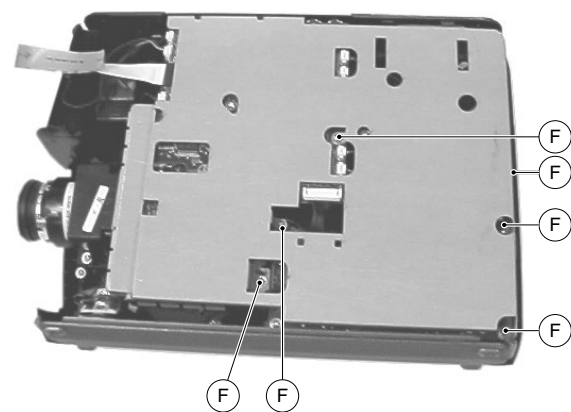
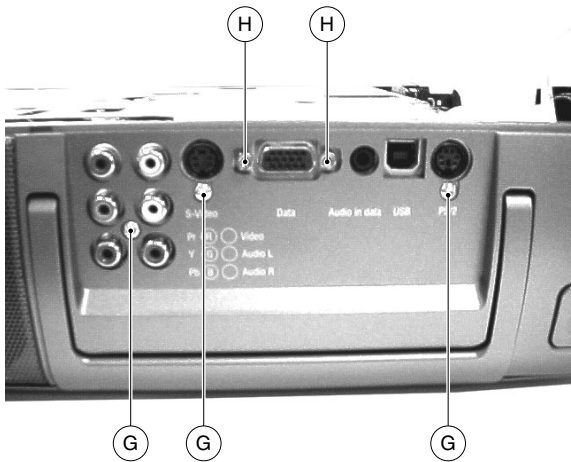

Fig. 5 CL 266450004_049.eps 240402
Fig. 6 CL 266450004_050.eps 24402
5. Remove the 6 screws “F” holding the top shield (Fig. 5). Then remove the 3 screws “G” and the 2 screws “H” (Fig. 6). Now the top shield can be removed.